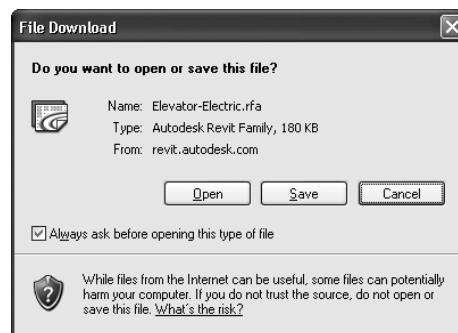

Figure 3-4.5a Web browser prompt
7. Select **Save** (Figure 3-4.5a).